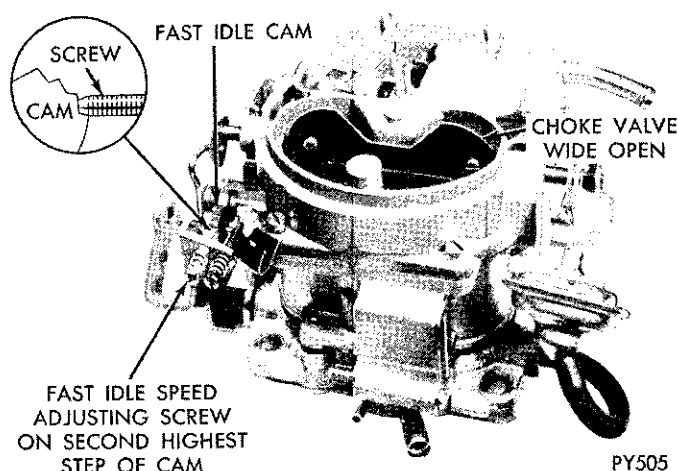

Fig. 17—Fast Idle Speed Adjustment (On Vehicle)
(1) With engine off and transmission in PARK or NEUTRAL position, open throttle slightly.
(2) Close choke valve until fast idle screw can be positioned on second highest-speed step of fast idle cam (Fig. 17).
(3) Start engine and determine stabilized speed. Turn fast idle speed screw in or out to secure specified speed. (See Specifications.)
(4) Stopping engine between adjustments is not necessary. However, reposition fast idle speed screw on cam after each speed adjustment to provide correct throttle closing torque.